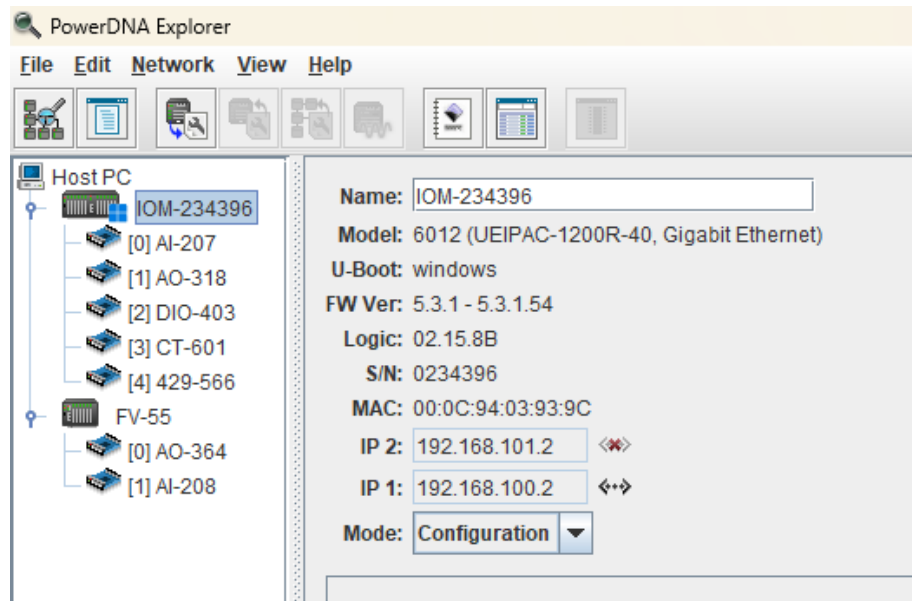

Figure 6-16. Example of Interacting with Multiple UEI Systems
In Figure 6-16, the IOM-234396 system is UEIPAC Intel running PowerDNA Explorer. The FV-55 system is an additional UEIPAC system that was discovered during the network scan.
4. Scan the network for UEI systems in the newly specified range either by selecting *Network >> Scan Network* or clicking the **Scan Network** button (Figure 6-16).